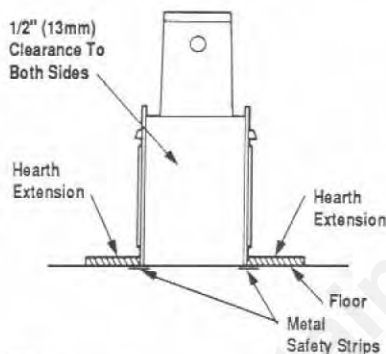

Figure 4
*Note: To avoid a "pull-down" draft condition; we strongly recommend that the hearth extensions be raised to the same height on both openings as illustrated in Figures 4 and 5.*
**Step 2.** Insert the metal safety strips, packaged with the fireplace, beneath the fireplace as illustrated (Figures 4 and 5). The safety strips should overlap 1" (25mm) for continual coverage of the floor.